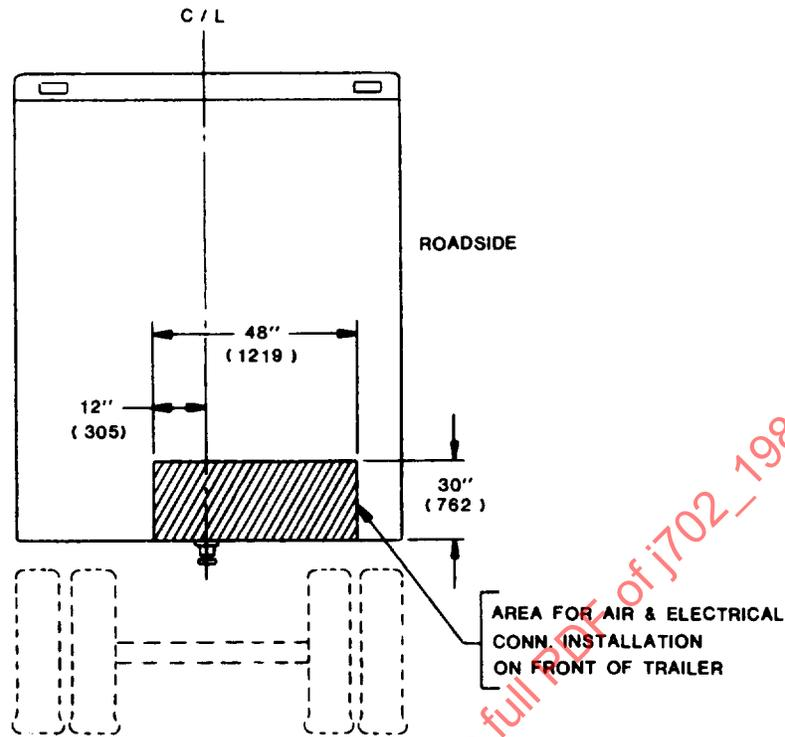

FIGURE 2—
- 4.1 **Brake Connections**—Trailer-mounted air hose couplings should be mounted on the front within the area shown in Fig. 2.